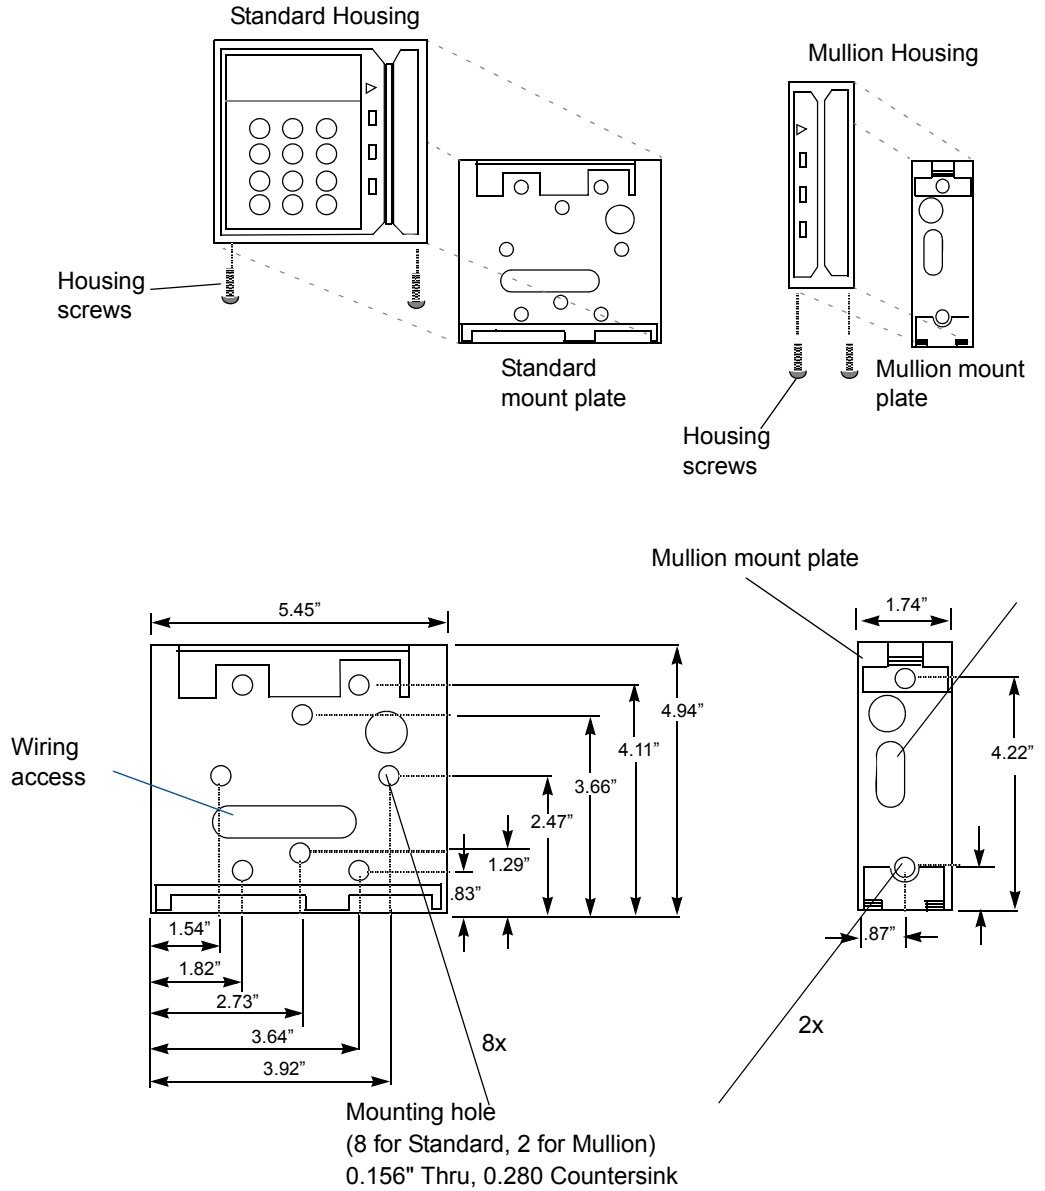

Figure 3.3: Mounting Plates for Standard and Mullion Styles
Standard RM-4 readers and mullion style read heads use mounting plates (see Figure 3.3). A mounting plate is attached to the housing by two screws on the bottom of the housing.
2. If the mounting plate is attached, use a security screwdriver to remove the housing screws, and carefully detach the mount plate from the housing (see Figure 3.3).